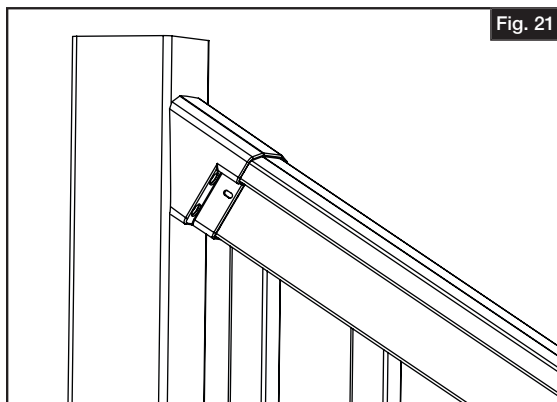

Fig. 21
- Slide handrail bracket over ends of railing (Fig. 21). Measure angle required and cut bracket and rail (and aluminum channel) to that angle.